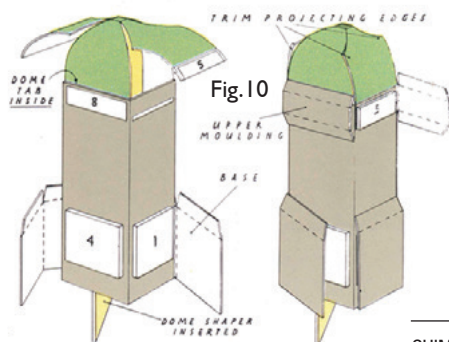

Fig. 10
- 9 CLOCK TOWER. Make light bending cuts along the four red arrow marked lines before cutting out. The curved lines are best cut with scissors as these end at the corners of the small central square and must not be cut beyond. Glue Clock Tower Packing Pieces 1, 2, 3 & 4 on the face where shown. By dampening the underside and rolling each segment around a cylindrical pencil, produce a curl in the dome sections in their separate directions. This curl need only approximate the final shape. Bend and glue the Tower to shape. Bend over and glue the Dome Tab, tucking it inside the top (Fig. 10). Insert the Clock Tower Dome Shaper, glued around the curved top and along the edges and press it up into the dome. Spread glue on the underside of the remaining two dome segments and smooth them down in place outside the tower. Trim the projecting edges with scissors only when thoroughly dry. Add Packing Pieces 5, 6, 7 and 8. Make the bending cuts and cut out the Clock Tower Base, glue the underside and wrap it around the tower, flush at the bottom. Repeat with the Upper Moulding above the clock face.